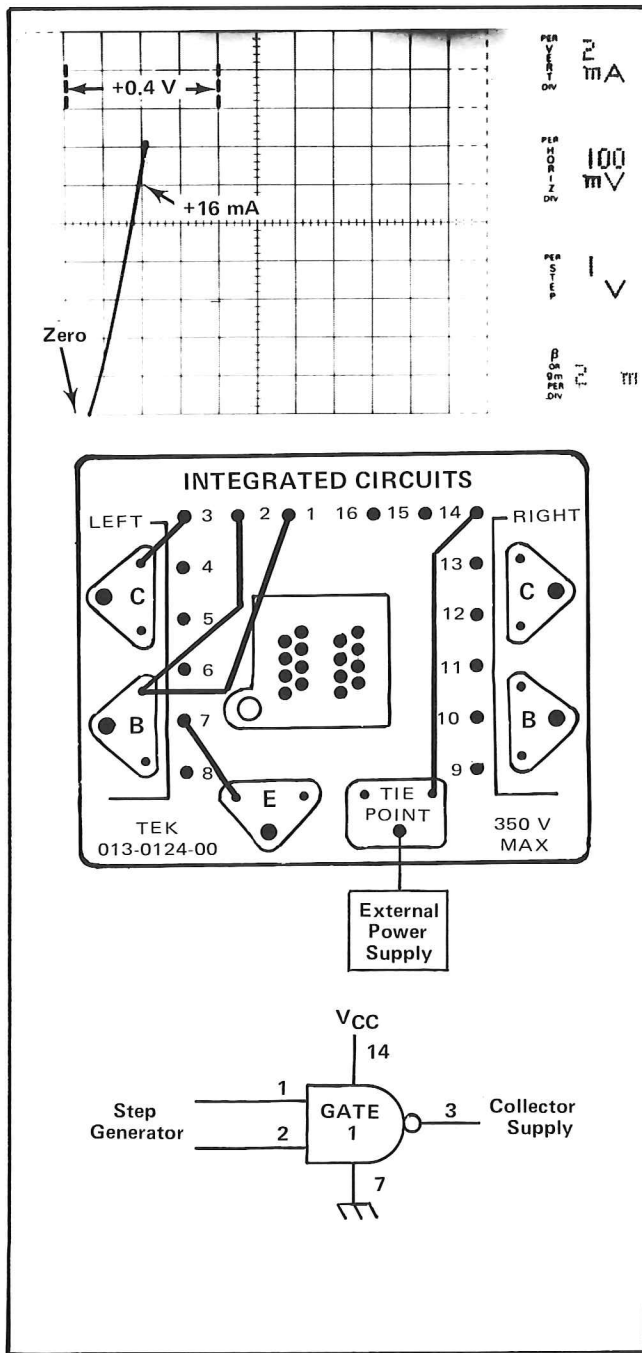

Fig. 6. Setup and Type 576 display for measuring  $V_{out}$  (o) with  $V_{in}$  (1).
b. Connect the patch wires to the IC adapter as shown in Fig. 6.
d. Set the LEFT-OFF-RIGHT switch to LEFT and turn the VARIABLE COLLECTOR SUPPLY control clockwise until the gate output conducts at least 16 mA (see the display in Fig. 6).